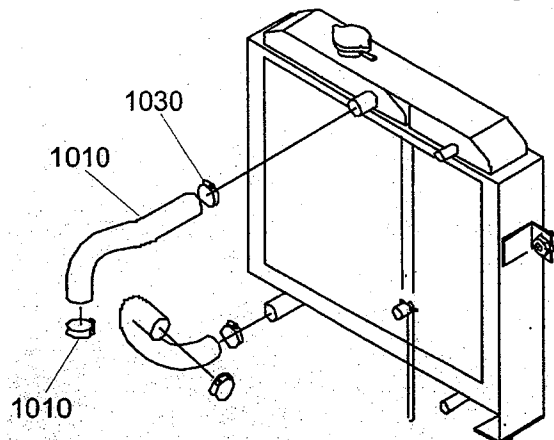

Fig04-00:
11. Fig04-00: Install the upper hose (1010), then tighten the hose clamps (1030).